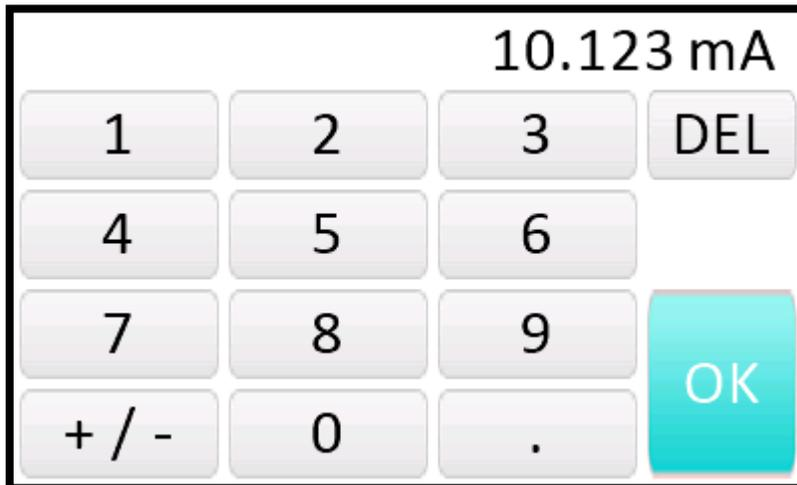

Figure 10. MAXREFDES183# Current Output setting.
12. A new screen will show up and ask to enter a value for the current (**Figure 10**). Please enter a value between -25mA and +25mA. Note for best accuracy, stay within the range of -21mA and +21mA. Once done, click **OK**.